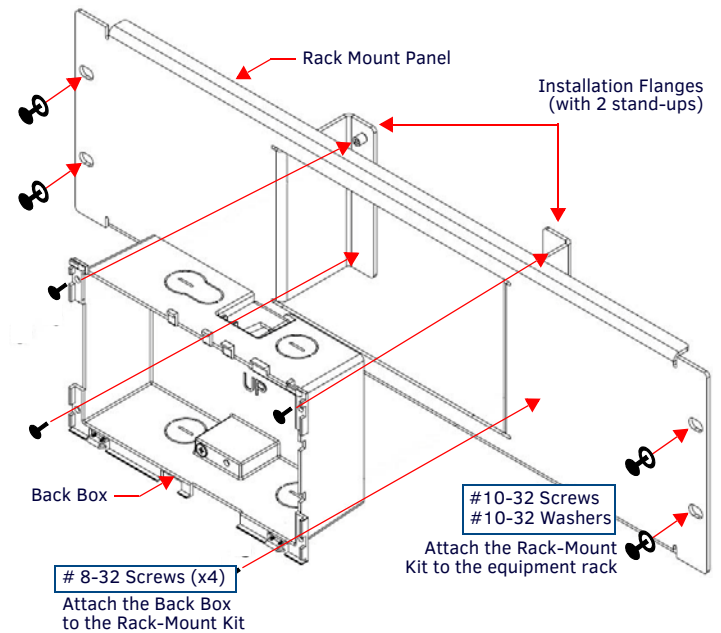

FIG. 2 INSTALLATION OF THE BACK BOX INTO THE MSA-RMK-07, FRONT VIEW
1. Secure the Rack Mount Panel to the rack with #10-23 screws and washers. Make sure that the installation flanges face away from the front of the rack (FIG. 2).